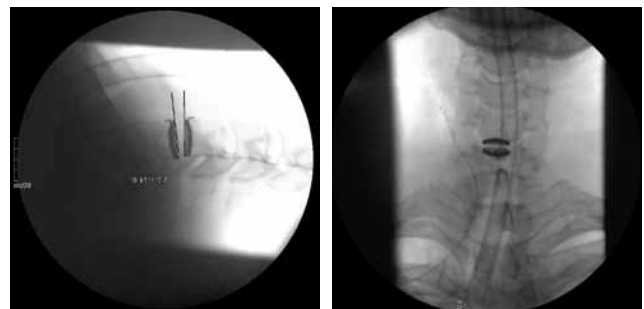

Figure 31
*“Following final insertion of the implant, lateral and AP images (fluoroscopic or x-ray) are recommended to verify proper placement. Use bone wax or the hemostatic agent of choice to seal the Distraction Pin holes” (Figure 31).*